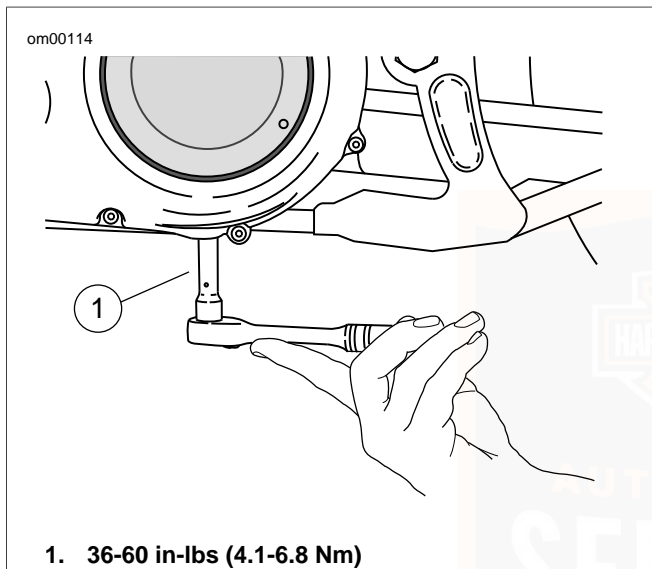

Figure 40. Removal/Installation of Chaincase Drain Plug
3. See Figure 40. Remove magnetic drain plug at bottom of inner primary chaincase cover. Drain lubricant into suitable container.